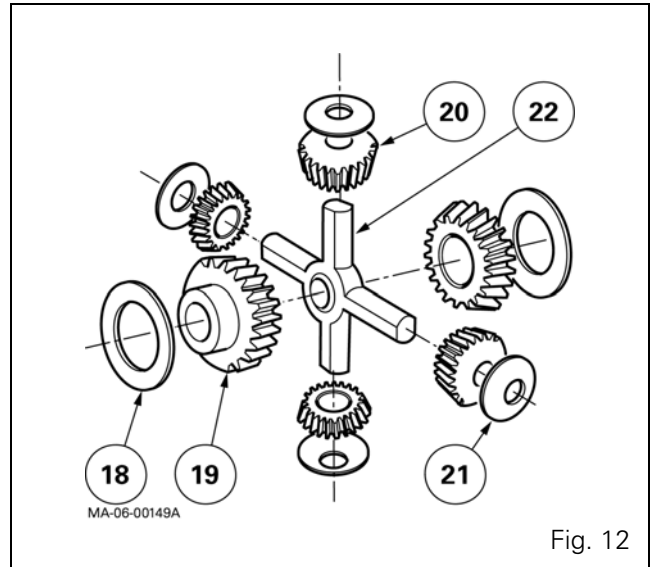

Fig. 12
- 44. Remove washers (18), sun gears (19), pinion gears (20), washers (21) and spider (22) (Fig. 12).